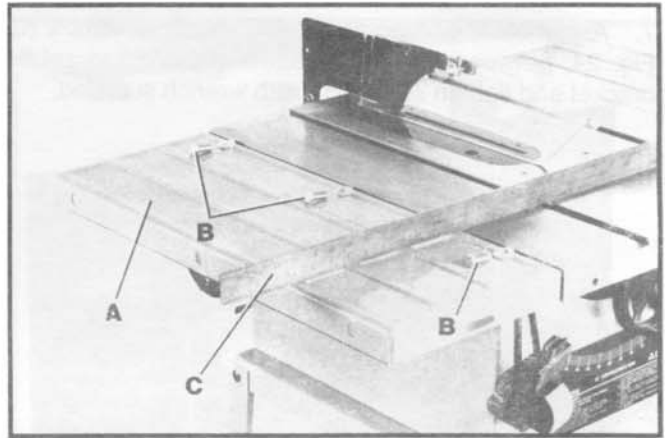

Fig. 29
1. Assemble extension wing (A) Fig. 29, to the saw table using three screws and lockwashers (B).
2. With a straight edge (C) Fig. 29, make certain the extension wing is level with the saw table before tightening the three screws (B).